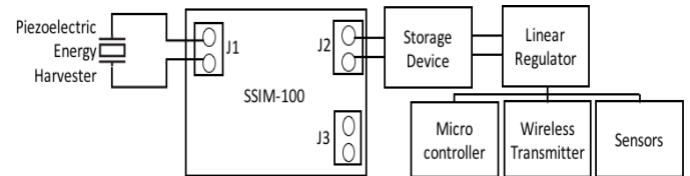

Figure 5. Example 2: Wireless sensor node with SSIM-100
Second configuration of wireless sensor node with SSIM-100 is shown in Fig. 5. When LDO is integrated in user's wireless sensor node, J2 is connected with storage device of wireless sensor node without connection of J3.
3.29 mW. Overall, SSIM-100 shows 80% of efficiency as shown in Figure 5.